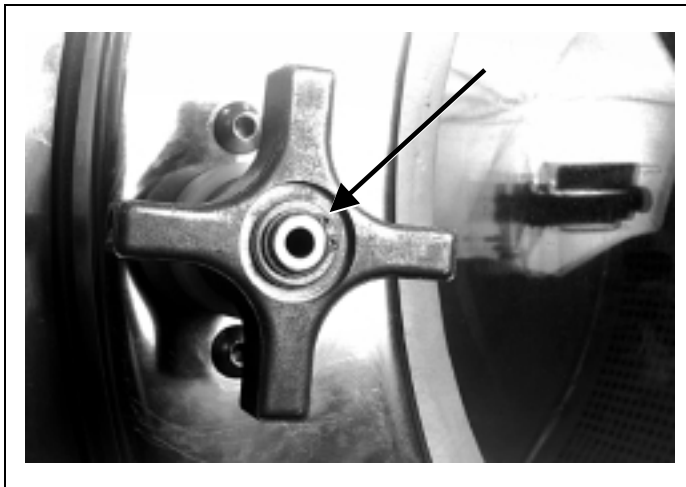

FIGURE 3 (MSSM0288AE)
4. Remove the outer retaining ring and thrust bearing (FIGURE 3). If necessary, push in on the door handle to release the retaining ring. Pull the door handle off the shaft.